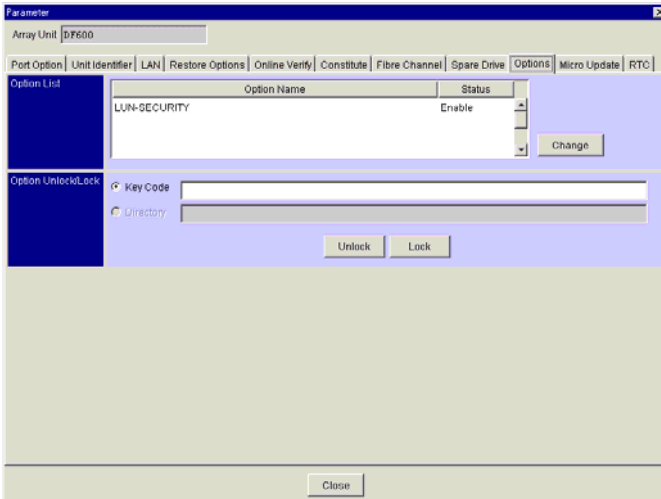

Figure 3.2 Parameter Panel (Options tab: No Option)
4. From the resulting Parameter panel, click the **Options** tab (see to Figure 3.2).